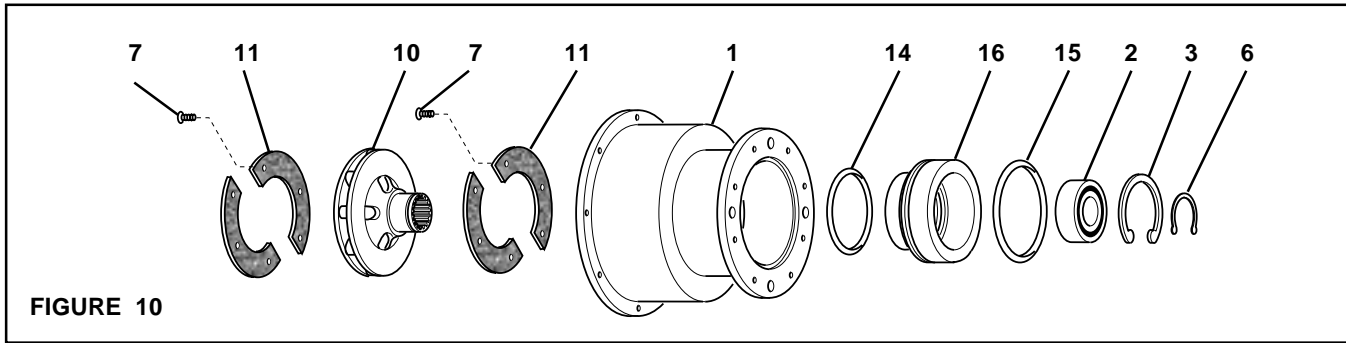

FIGURE 10
1. Remove the Retaining Ring (Item 6) from the Splined Disc (Item 10) (See Figures 10 and 11).
2. Supporting the inner flange of the Housing (Item 1), press the Splined Disc (Item 10) out of the Piston (Item 16) and Bearing (Item 2) (See Figures 10 and 11).
3. Slide the Piston (Item 16) and O-ring Seals (Items 14 and 15) out of the Housing (Item 1) (See Figures 10 and 11).
4. Remove the Retaining Ring (Item 3) from the Piston (Item 16) (See Figures 10 and 11).
5. Supporting the Piston (Item 16), press the Bearing (Item 2) out of the Piston (See Figures 10 and 11).
6. Supporting the Piston (Item 16) and pressing on the outer race of the new Bearing (Item 2), press the new Bearing into the Piston (See Figures 10 and 11).
7. Install the Retaining Ring (Item 3) (See Figures 10 and 11).
8. Clean the O-ring contact surfaces of both the Piston (Item 16) and Housing (Item 1) with fresh safety solvent (See Figures 10 and 11).
10. Coat the new O-ring Seals (Item 14 and 15) with fresh O-ring lubricant (See Figures 10 and 11).
11. Install O-ring Seal (Item 14) into the Housing (Item 1) and O-ring Seal (Item 15) onto the Piston (Item 16) (See Figures 10 and 11).
12. Slide the Piston (Item 16) with O-ring Seal (Item 15) back into the Housing (Item 1) and O-ring Seal (Item 14) (See Figures 10 and 11).
13. Remove the six Machine Screws (Item 7) securing the Split Friction Facings (Item 11) to the Housing (Item 1) (See Figures 10 and 11).
14. Remove the Split Friction Facing from the Housing (Item 11) (See Figures 10 and 11).
15. Using six new Machine Screws (Item 7), secure the new Friction Facing (Item 11) to the Housing (Item 1) (See Figures 10 and 11).
17. Remove the six Machine Screws (Item 7) securing the Split Friction Facings (Item 11) to the Splined Disc (Item 10) (See Figures 10 and 11).
18. Remove the Split Friction Facing (Item 11) (See Figures 10 and 11).
19. Using six new Machine Screws (Item 7), secure the new Friction Facing (Item 11) to the Splined Disc (Item 10) (See Figures 10 and 11).
21. Support the inner race of the Bearing (Item 2) and press the Splined Disc (Item 10) back into the Bearing (Item 2) and Housing (Item 1) (See Figures 10 and 11).
22. Install the Retaining Ring (Item 6) (See Figures 10 and 11).